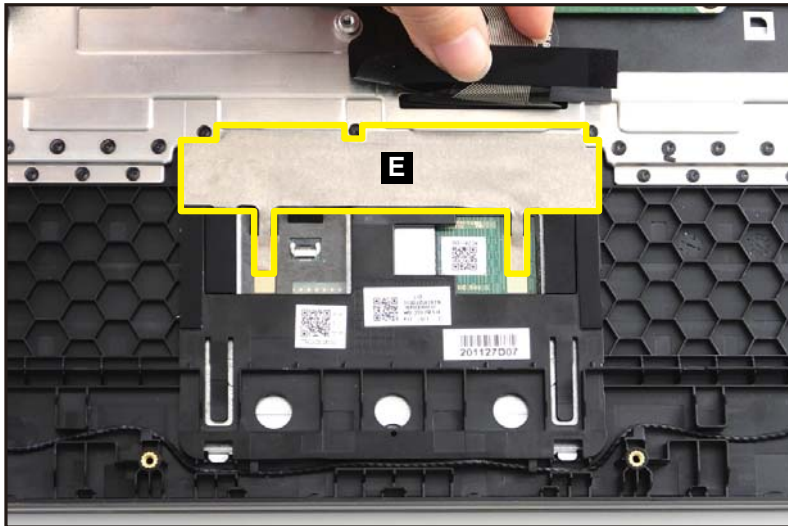

Figure 1-12. Touchpad Module Removal
4. Detach the conductive tape (E) from the touchpad module (Figure 1-12).